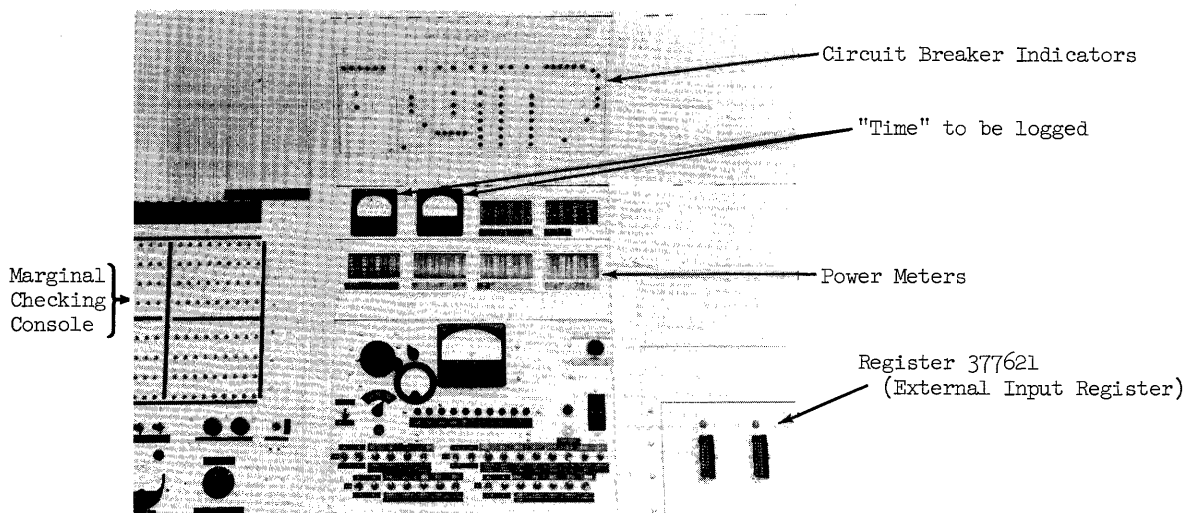

Fig. 5-3 - Maintenance Console
- F1 - Console - See Figure 5-3, 5-4, 5-5, 5-6, 5-7, 5-8, 5-9
Hold the button in until the warning horn stops. The computer will be "ready" in about 1 1/2 minutes. Run "clear memory" once or twice with parity alarms suppressed. Un-suppress the alarms. the computer should be ready for use. Log the time. (Fig. 5-3) Turn on the Lincoln Writer(s), and the IBM Tape Units. (They have their own power switches.)
Be sure TX-2 tape is at "MAT 0000", before pushing "OFF" button. Log the time. (Fig. 5-3) Turn off the Lincoln Writer(s), and IBM Tape Units.